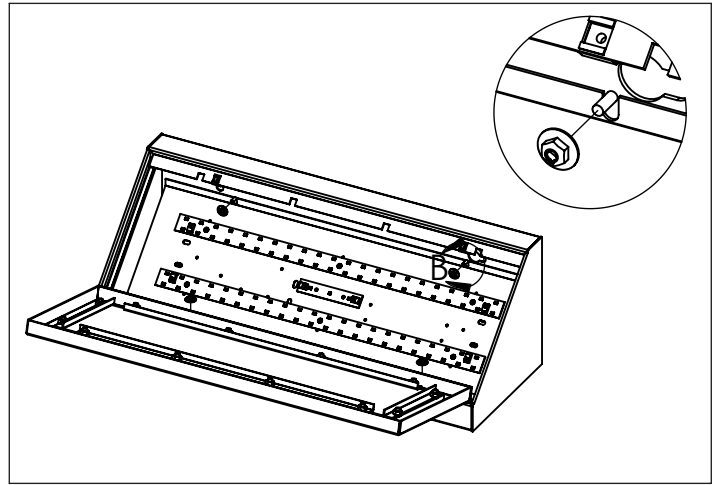

Figure 2
2. Remove screws and pull LED gear tray out of fixture. Remove necessary K.O. that best suits installation before mounting (Fig. 2)